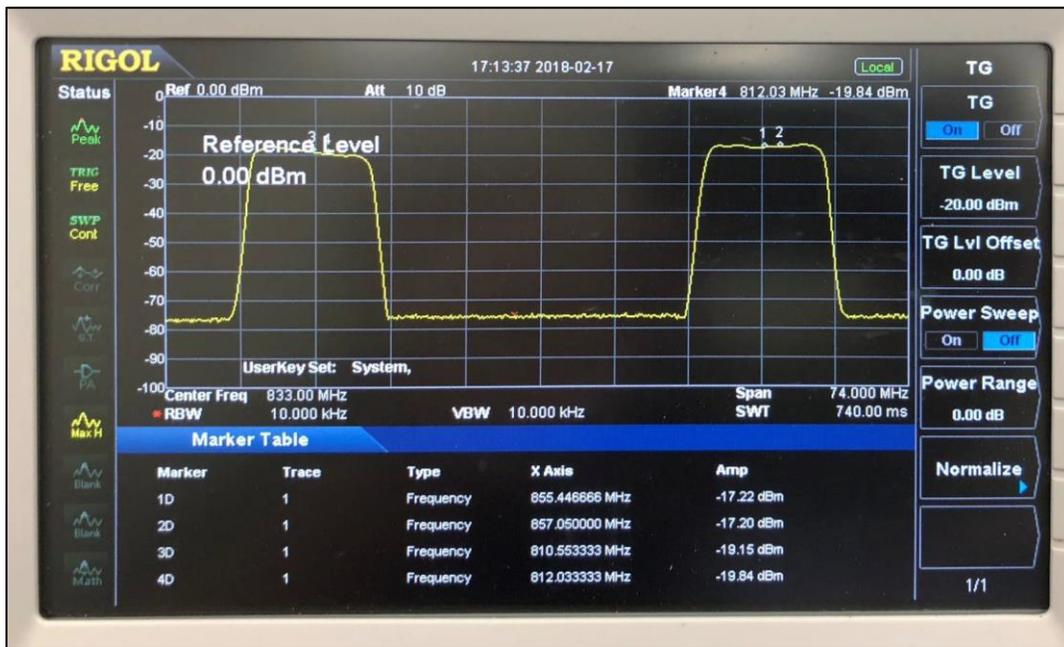

Figure 1.9
- (-19.15dBm)	The amp value or signal level of Marker 3D (Figure 1.9)
9. Send a screen shot of the two tests' display (see Figure 1.9) to the Project Manager.